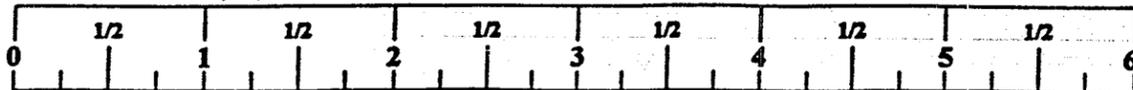

**FIGURE 3**
- Snap two 3 X 2" GUIDE INSERTS (15) into the ends of the WOLFF SLEEVE (7) as shown in FIGURE 3.
- Insert 3/8" SPRING PIN ASSEMBLY (11) into the spring pin barrel on WOLFF SLEEVE (7) and tighten nut securely. See FIGURE 3.
- Slide one 4" VINYL CAP (17) over the U-PIN (16) as shown in FIGURE 3.
- Slide U-PIN (16) through the bushing on WOLFF SLEEVE (7) and attach with PAL-NUT (27)
- Slide the WOLFF SLEEVE (7) over the BENCH FRAME (3).
- Securely assemble the BENCH FRAME (3) to the REAR LEG (1) & the SWIVEL PLATE (2) using two 1/2 X 3" BOLTS (21), two 1/2" FLAT WASHERS (24), and two 1/2" NYLOCK NUTS (26) as shown in FIGURE 3.
- Securely assemble the 2 SQ. X 18" TUBE (8) to the BENCH FRAME (3) using two 3/8 X 3" BOLTS (19), four 3/8" FLAT WASHERS (23), and two 3/8" NYLOCK NUTS (25). See FIGURE 3.